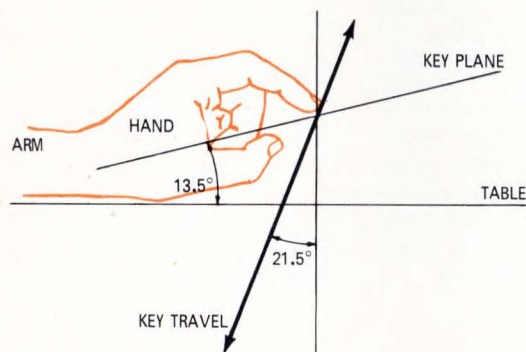

Fig. 7—Key travel angle.
13.5°. If the arm were parallel to this surface, then the key travel should be 21.5° with respect to the vertical, as in Fig. 7.